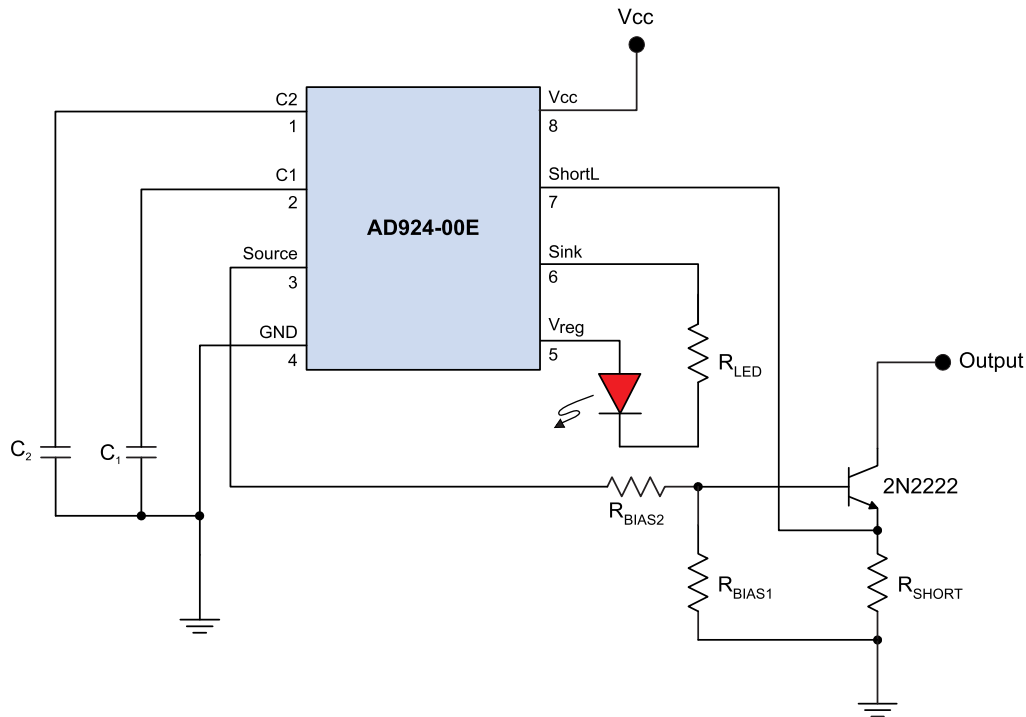

Figure 7. Short-circuit protection circuitry (sinking output).
- Changed Figure 7 from AD921-00 to AD924-00E (p. 6).